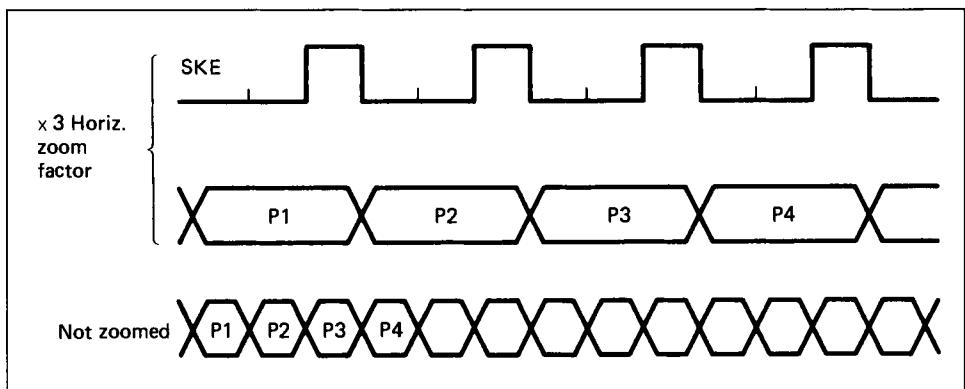

Figure 7.6 *Horizontal zooming of a video picture; SKE is the video shift register enable signal*
The way the electronics works is as follows. IC18 acts as a down counter which cycles down to zero from the horizontal zoom factor, HZ. Every HZ clock pulses it will reach zero at which point the terminal count (TC) output goes HI, and is connected to the SK input of the video shift registers. SK prevents the shift register from shifting pixels when it is LO, and hence the same pixel is displayed whilst SK is LO, thus performing the required repetition. Figure 7.6 illustrates this operation for HZ equal to three.